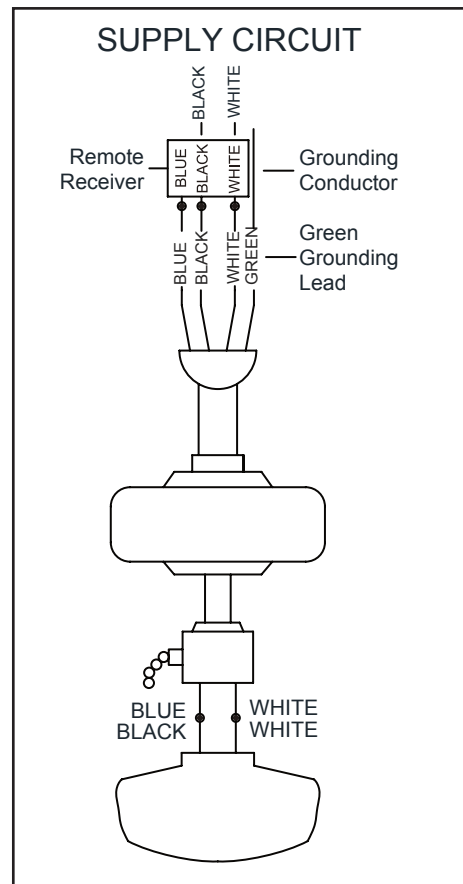

Figure 10
Follow the steps below to connect the fan to your household wiring. Use the wire connecting nuts supplied with your fan and supplied with remote control. Secure the connectors with electrical tape. Make sure there are no loose strands or connections. (Figure 10)
1. Connect the ground conductor of the 120v supply (this may be a bare wire or a wire with green colored insulation) to the green ground lead(s) of the fan. (Figure 10)
2. Connect the fan motor white wire to the receiver white wire using a wire nut. (Figure 10)
3. Connect the fan motor black wire to the receiver black wire using a wire nut. (Figure 10)
4. Connect the fan motor blue wire to the receiver blue wire using a wire nut. (Figure 10)
5. Connect the receiver black wire to the supply black (hot) wire using a wire nut. (Figure 10)
6. Connect the receiver white wire to the supply white (neutral) wire using a wire nut. (Figure 10)